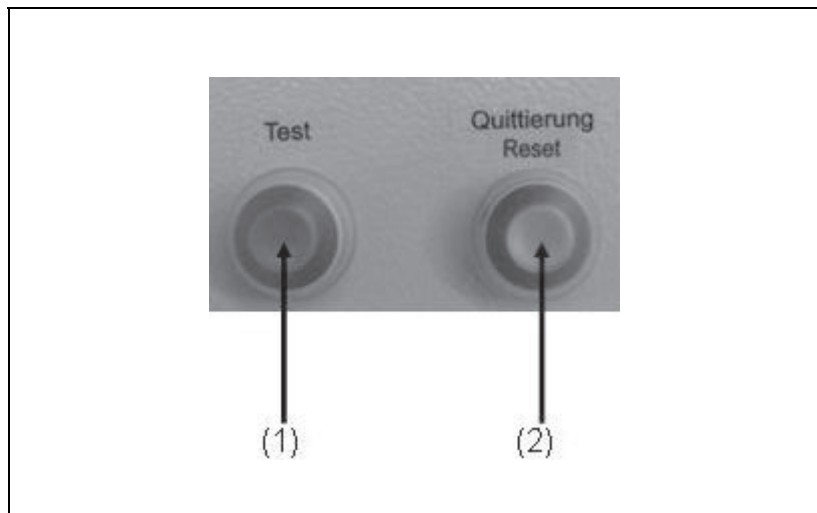

Figure 5-2: Insulation monitoring using E-MCS 4.0
2. Press the Test button (see Figure 5-2-(1))
3. The reset button (see Figure 5-2-(2)) must be pressed after the test has been completed so that the unit can be used again.
2. The reset button (see Figure 5-2-(2)) must be pressed after switching off and disconnecting the consumer so that the unit can be used again.